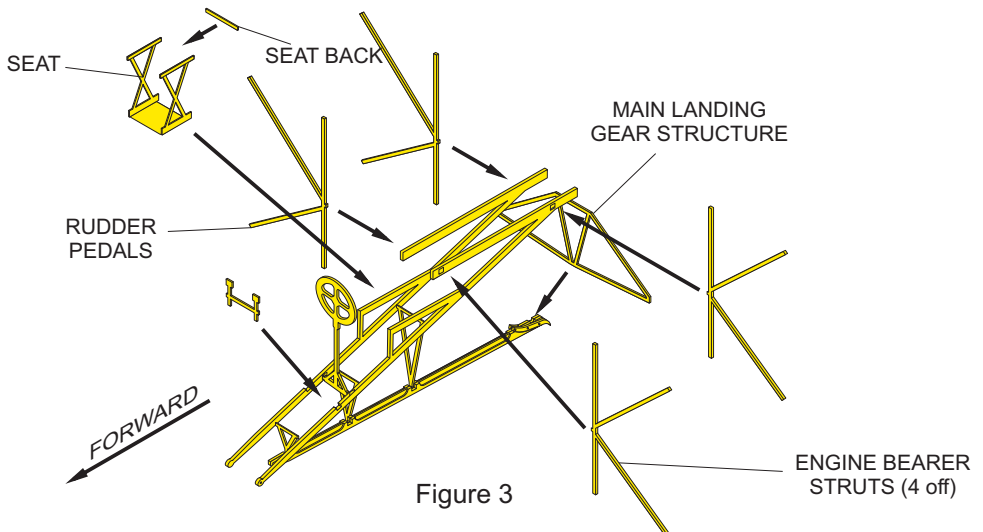

Figure 3
- E Engage the rudder pedals in the slots in the top of the engine bearers and bond them in place (see Figure 3).